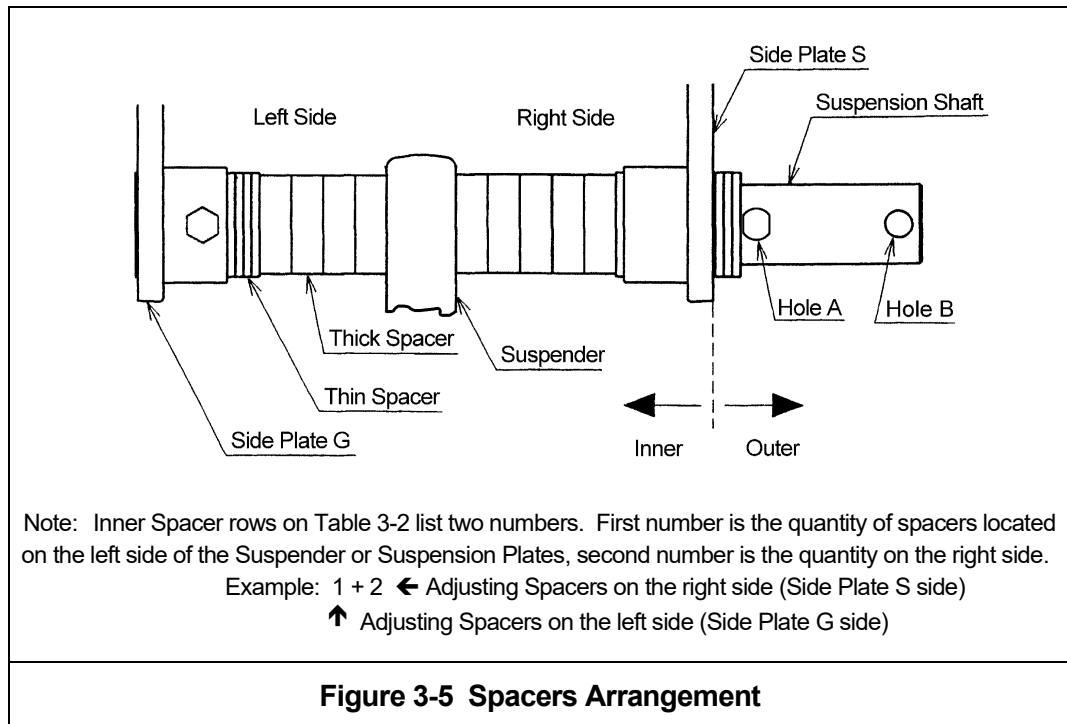

Figure 3-5 Spacers Arrangement
- 4) Referring to Figure 3-5, Table 3-1 and Table 3-2 install the inner adjusting Spacers and Suspender (with hoist) on the Suspension Shaft. Use all of the Spacers provided with the trolley. If the beam width is not listed in Table 3-2, use the next size smaller and make adjustments in accordance with Section 3.2.6.